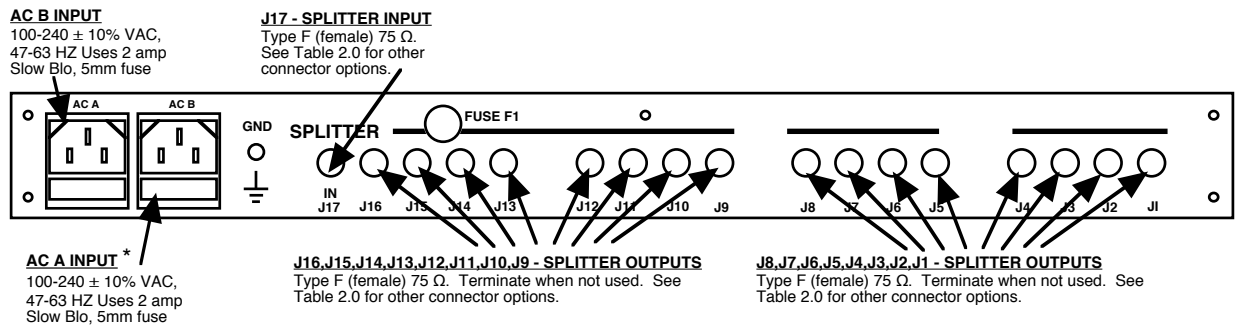

FIGURE 2.1 1584-116/116S REAR PANEL
2.1 Mechanical - The 1584-116/116S consists of one RF printed circuit board (PCB) housed in a 1 RU (1 3/4 inch high) by 12 inch deep chassis. Redundant, switching, +24 VDC power supplies with the DC output diode OR'd provide redundant power for the internal and external amplifiers and LEDs. (Model 1584-116S has a single non-redundant, switching power supply). Connectors are type F, female for the RF connections (BNC, female option -B or -D). The 1584-116/116S can be secured to a rack using the 4 holes on the front panel. Figure 2.1 shows how the 1584-116/116S is assembled. J25 connects DC Power to the fuse as shown and J30 and J29 connect the DC voltage from the power supplies to the PCB as shown.
The input and output connectors on the rear panel are shown in Figure 2.1.